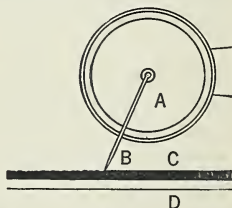
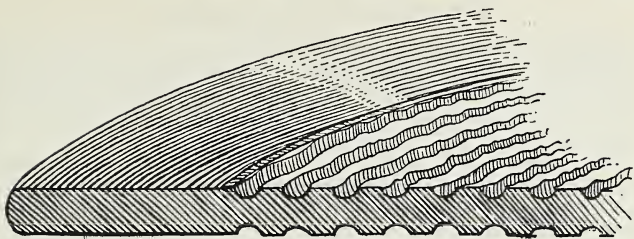

Fig. 222. Making a simple phonograph record. A, diaphragm; B, needle; C, wax; D, glass.
Fig. 223. Grooves in a phonograph record cause the needle to vibrate, thus moving the diaphragm.
**Why the phonograph talks.** Mount a short needle on a thin sheet of mica in such a way that you can speak against the mica and set it into vibration (Fig. 222). While the disk is vibrating, place under the needle point a wax plate so mounted that it can be driven along under the needle point and in contact with it. When you speak close to the disk, causing it to vibrate, and at the same time drive the wax plate under the needle point, the needle point will be set into motion and will cut a groove in the wax. Examine the groove under the magnifying glass and you will see that the groove is not uniform, but is made up of hills and valleys caused by the to-and-fro motion of the needle point (Fig. 223).